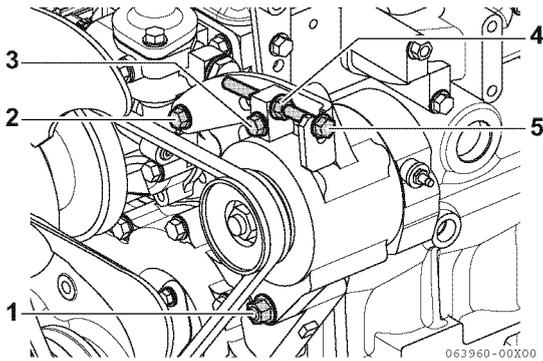

Figure 5-3
- 1- Loosen the attaching nut (1, **Figure 5-3**) under the alternator, belt adjuster mounting bolt (2, **Figure 5-3**), and belt adjuster tightening bolt (3, **Figure 5-3**).
- 2- Loosen the adjuster bolt lock nut (4, **Figure 5-3**) and adjust the tension by turning the adjuster bolt (5, **Figure 5-3**). (Turn the adjuster bolt clock wise to stretch the belt.)
3- After adjusting with the adjuster bolt (5, **Figure 5-3**), in the following order, tighten the tightening bolt (3, **Figure 5-3**), belt adjuster mounting bolt (2, **Figure 5-3**), attaching nut (1, **Figure 5-3**), and then the lock nut (4, **Figure 5-3**) at last.